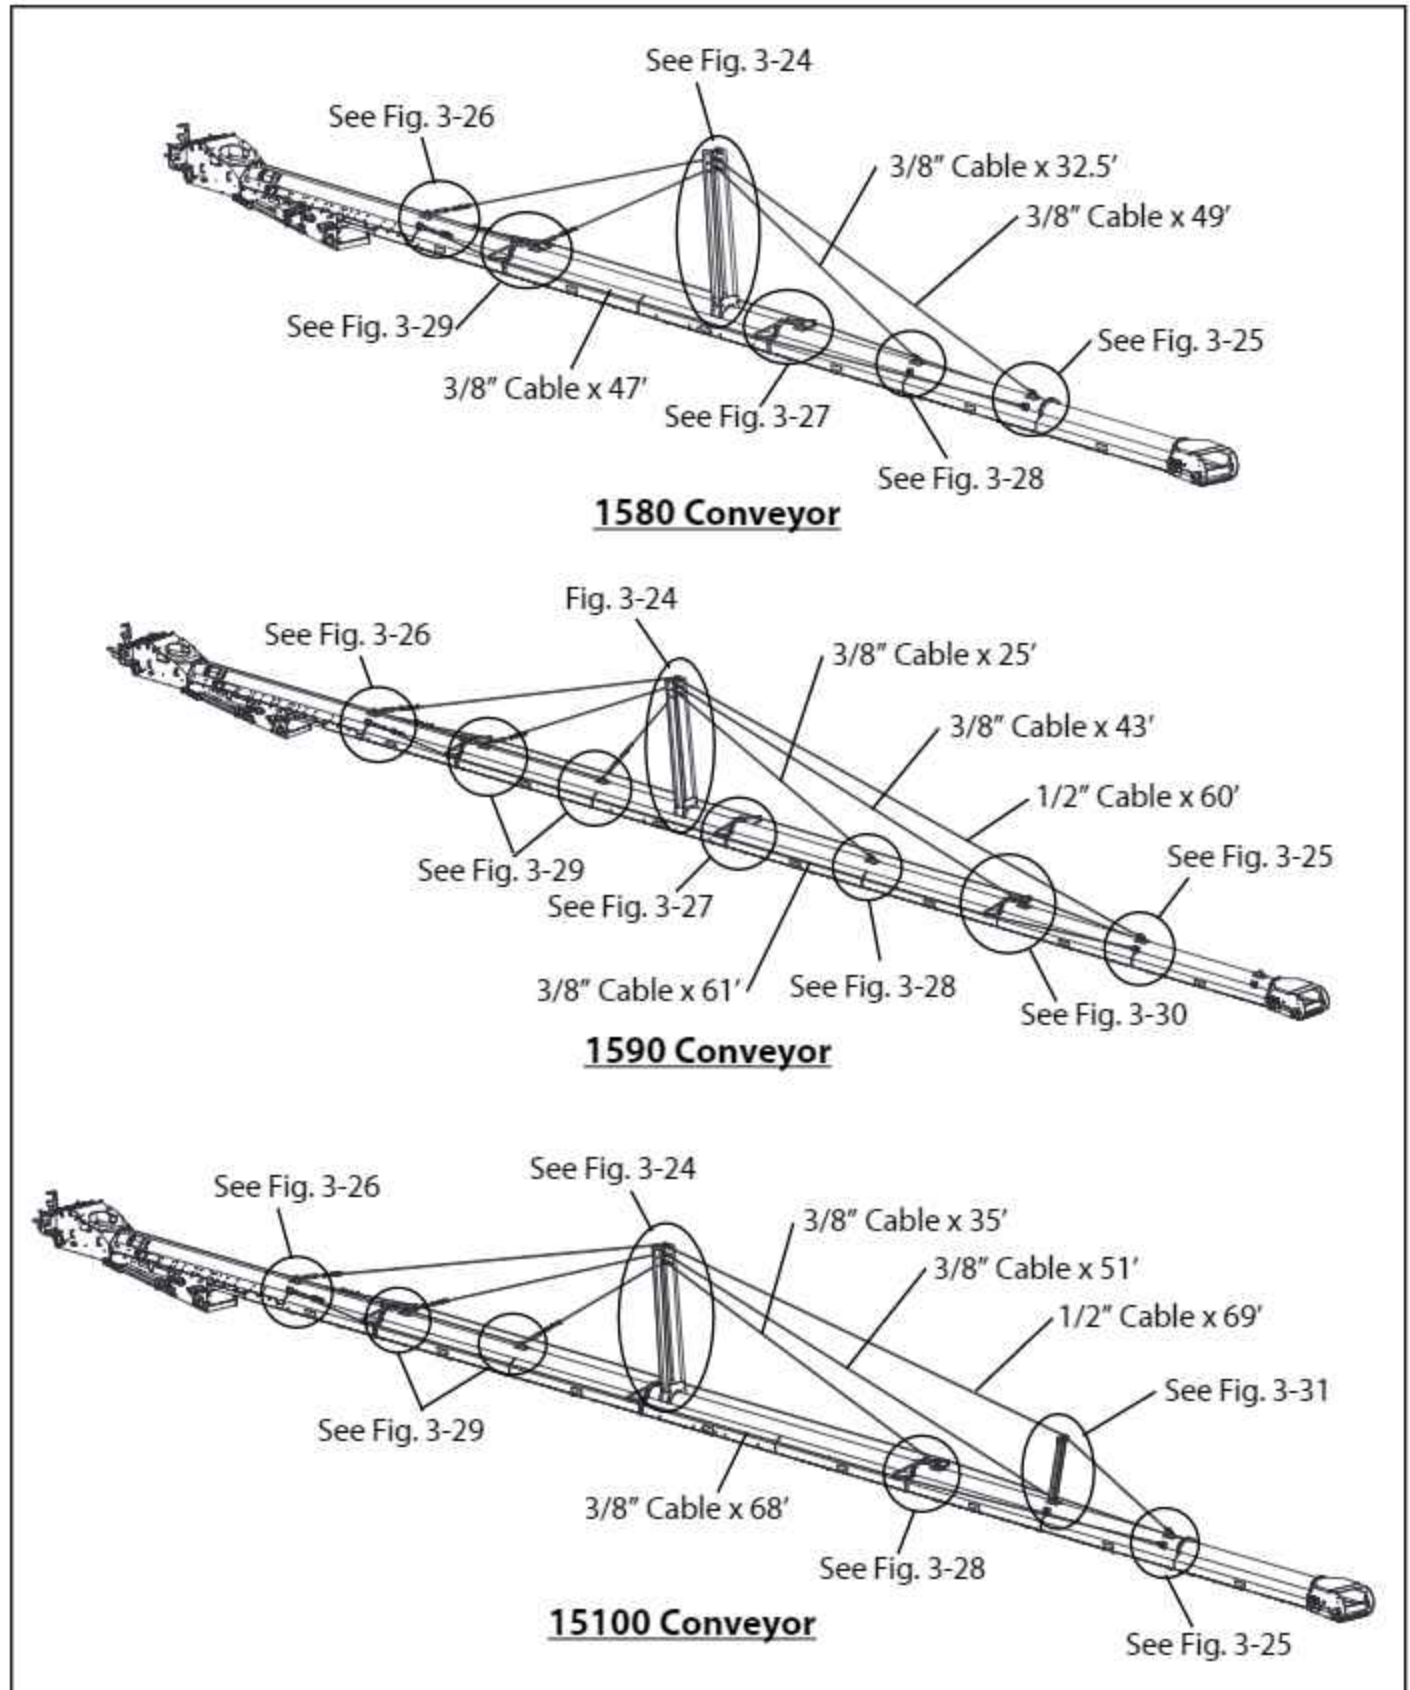
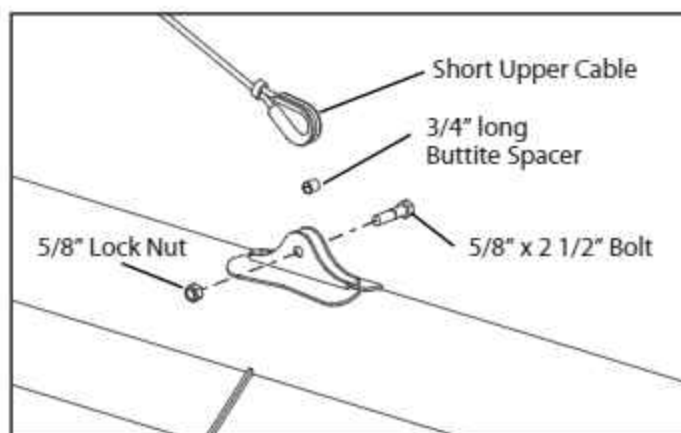
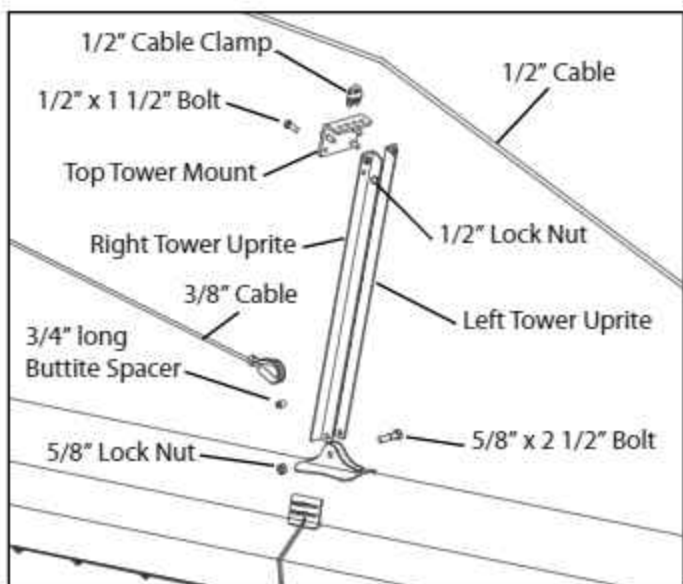

FIG. 3-23. Installing the Truss Cables
FIG. 3-28. Truss Cable Mounting
FIG. 3-31. Short Truss Tower Installation
12. Attach the looped end of the 32.5' truss cable to the mount location shown in Fig. 3-23. Use a 5/8" x 2 1/2" bolt, 3/4" spacer and lock nut as shown in Fig. 3-28.
13. Route the cable through the cable clamp on the middle plate of the truss tower and down to the mount on the tube closest to the lower tube flange. Do not tighten the cable clamp yet. See Fig. 3-23.
12. Attach the looped end of the 43' truss cable to the mount location shown in Fig. 3-23. Use a 5/8" x 2 1/2" bolt, 3/4" spacer and lock nut as shown in Fig. 3-30.
15. Attach the looped end of the 25' truss cable to the mount location shown in Fig. 3-23. Use a 5/8" x 2 1/2" bolt, 3/4" spacer and lock nut as shown in Fig. 3-28.
16. Route the cable through the cable clamp on the bottom plate of the truss tower and down to the mount in the middle of the Suspension Tube. Do not tighten the cable clamp yet. See Fig. 3-23.
3. Assemble the Short Truss Tower and attach it and the looped end of the 51' cable to the mount shown in Fig. 3-23 and Fig. 3-31.
13. Attach the looped end of the 51' truss cable to the mount location shown in Fig. 3-23, if not already done. Use a 5/8" x 2 1/2" bolt, 3/4" spacer and lock nut as shown in Fig. 3-31.
14. Route the cable through the cable clamp on the middle plate of the truss tower and down to the mount on the tube closest to the lower tube flange. Do not tighten the cable clamp yet. See Fig. 3-23.
16. Attach the looped end of the 35' truss cable to the mount location shown in Fig. 3-23. Use a 5/8" x 2 1/2" bolt, 3/4" spacer and lock nut as shown in Fig. 3-28.
17. Route the cable through the cable clamp on the bottom plate of the truss tower and down to the mount in the middle of the Suspension Tube. Do not tighten the cable clamp yet. See Fig. 3-23.